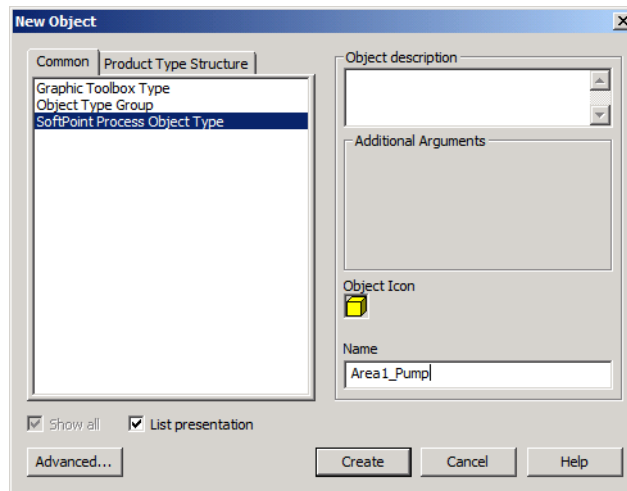

Figure 5. New Object Dialog
3. In the **New Object** dialog click the **Common** tab and select **SoftPoint Process Object Type**, Figure 5.